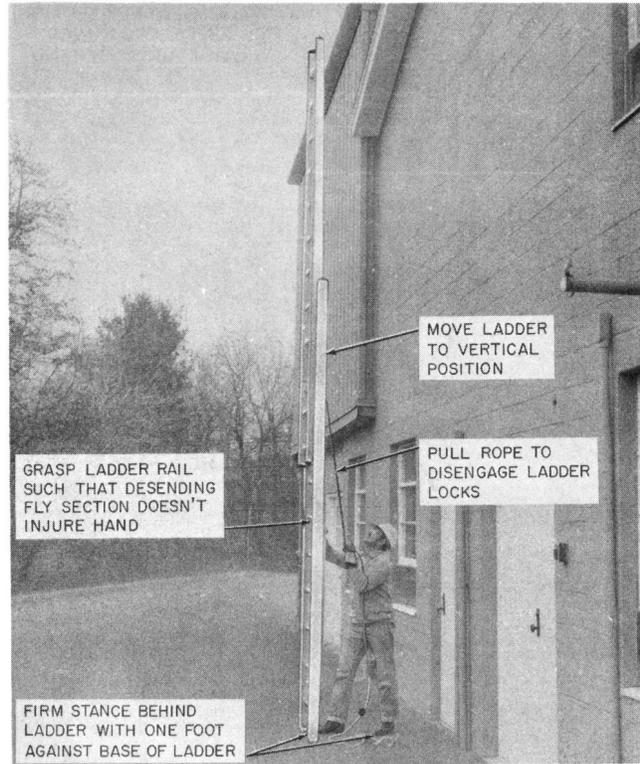

Fig. 47—Preparing To Lower Fly Section
9.19 The one-person method of lowering an extension ladder, is illustrated in Fig. 47 and 48.